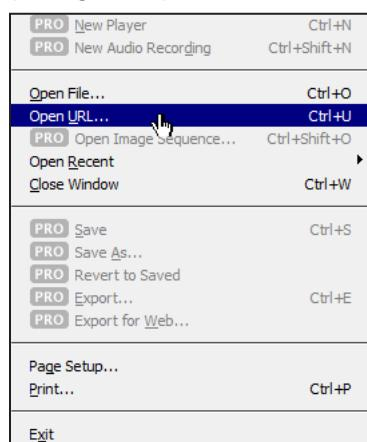

Figure 85. QuickTime Player Menu – Open URL
5. The QuickTime media player opens. From the **File** menu, select **Open URL** (see figure 85).